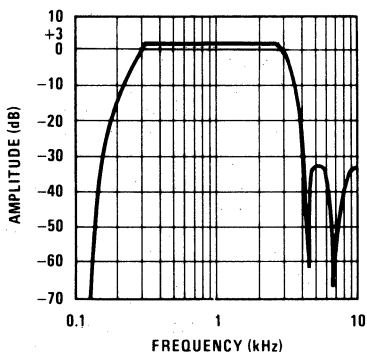
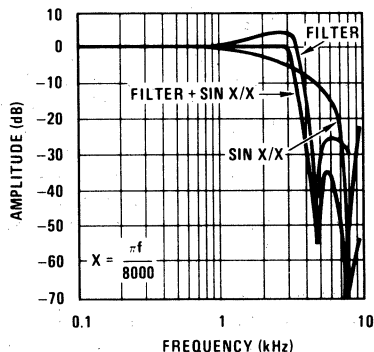
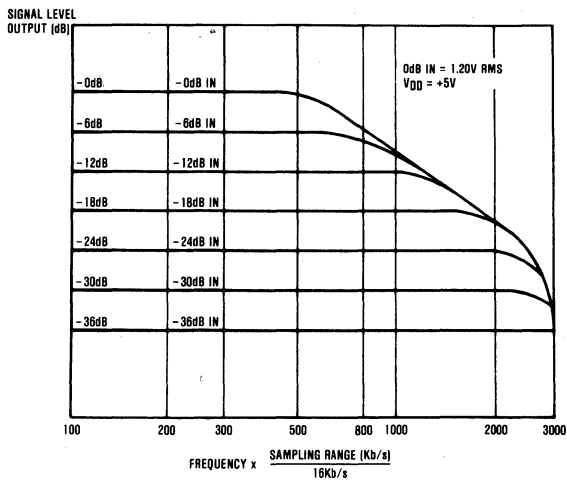
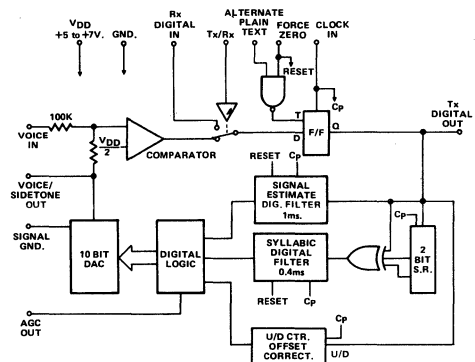

FIGURE 1A. TRANSMIT FILTER STAGE
FIGURE 1B. RECEIVE FILTER STAGE
FIGURE 2. TRANSFER FUNCTION FOR CVSD AT 16KB
Figure 3 - HC-55564 CVSD Functional Diagram
The process of converting filtered voice information into a digitized pulse train format begins with sampling the voice signal at uniform intervals. These intervals are determined by the Nyquist Sampling Theorem, which simply states that any signal may be completely re-constructed from its representative sampling, if it is sampled at least twice the maximum frequency of interest. The telephone system, being a worldwide standard 8kHz sampling system, satisfies Nyquist, as all voice signals are band-limited to 4kHz. When the voice waveform is sampled, a train of short pulses is produced, each representing the amplitude of the waveform at the specific instant of sampling. This process is called Pulse Amplitude Modulation (PAM). The envelope of the PAM samples replicate the original waveform. Figures 1A thru 1D illustrate representative PAM samples for up to 24(30) individual voice channels in a μ -Law (A-Law) telephone system.
The transmit and receive filter responses are shown in Figures 1A and 1B. The transfer characteristic of the CVSD is illustrated in Figure 2. A suggested circuit configuration is shown in Figure 3.
The HC-5512C filter is configured such that it utilizes a 2.048MHz clock for the switched capacitors. A 16kHz or 32kHz sampling clock for the CVSD is easily derived as shown in Figure 3. A 32kHz sampling clock is recommended to enhance noise performance, frequency response, and dynamic range of the CVSD. For the circuit as shown the audio signal into the CVSD should be 1Vp-p over the 3.2kHz band to obtain a flat response. As can be seen from Figure 2, for lower frequency signals, higher signal levels can be used. However, an external compensation network is required to flatten the inherent SINX/X output response of the receive filter stage (see Figure 1B). R_A , R_B and C_A form a simple lead lag filter at the output of the receive filter in the HC-5512C. This introduces a pole at 1kHz and a zero at 3.3kHz in order to give some degree of compensation against the filter's SINX/X characteristics.
The CVSD: A popular effective scheme for companded delta modulation is known as CVSD (continuously variable slope deltamod) shown in Figure 2. Additional digital logic, a second integrator, and an analog multiplier are added to the simple modulator.
Delta modulated data is in a form which can be digitally filtered with fairly simple circuitry. A compatible CVSD can be made using digital integrators and multipliers driving a digital-to-analog converter. The block diagram of the Harris HC-55564 monolithic CVSD is shown in Figure 3.
The CMOS digital circuit functions of Figure 3 closely parallel the equivalent analog function in Figure 2. The filters are single pole recursive types using shift registers with feedback. A digital multiplier feeds a 10 bit R-2R DAC which reconstructs the voice waveform. The DAC output is in steps, rather than ramps.